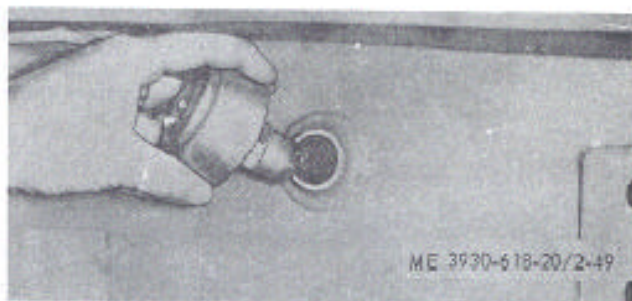

Figure 2-49. Removing hydraulic oil tank breather.
a. Removal. The breather is attached to the top of the tank. Refer to figure 2-49 and remove the breather as follows:
(1) Remove the breather as shown.
(2) Remove the screw attaching the breather cap to the base and remove the filter element.